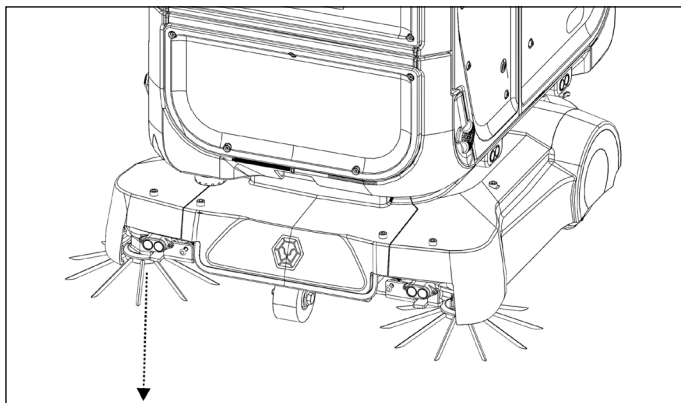

Figure 77
2. Remove the old side brush by pressing firmly down on the core of the side brush (**Fig. 77**).